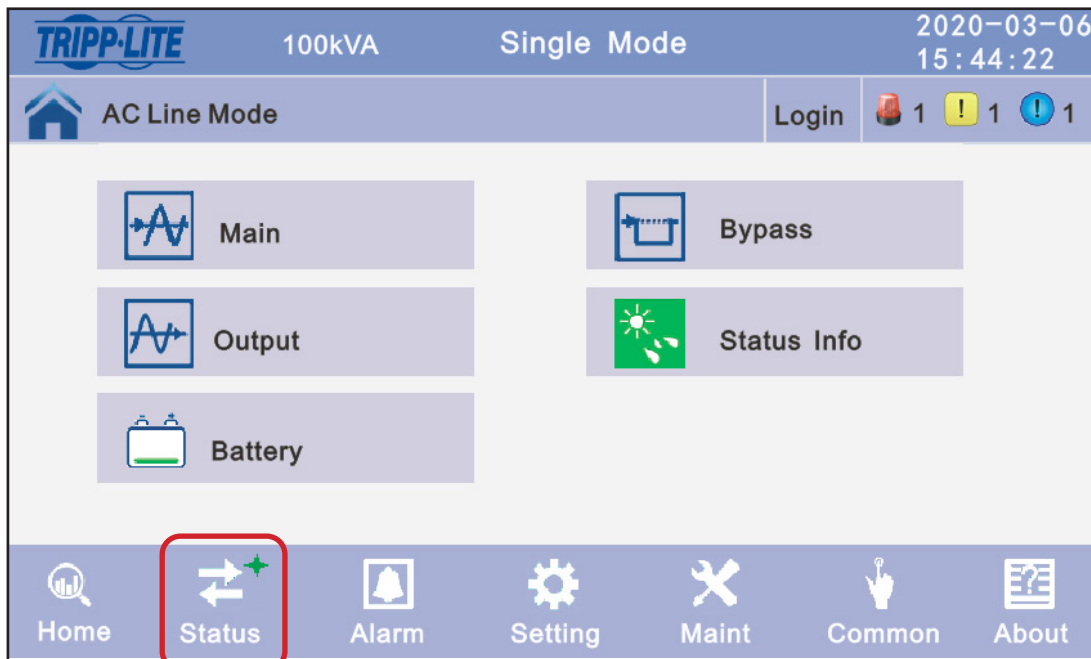

Figure 4-8 : Écran d'état
The screenshot shows the 'Main' data display screen. The top bar is identical to Figure 4-8. The main area features a green sine wave icon on the left and a table of electrical parameters on the right. The table has columns for 'A', 'B', and 'C'. The parameters are: Phase Volt (V), Line Volt (V), Phase Freq (Hz), Phase Current (A), and Input PF factor. A return arrow icon is located at the bottom right of the table area.